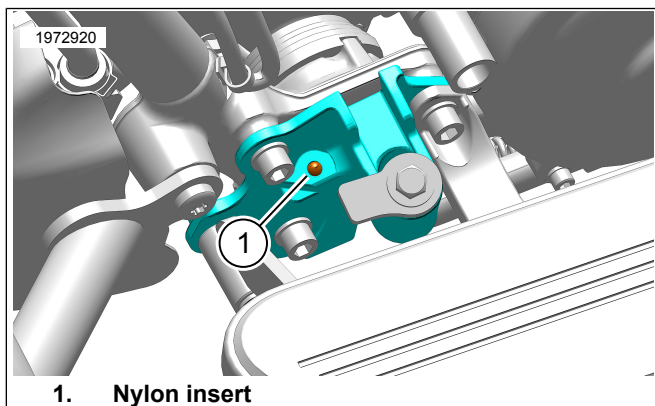

Figure 2. Nylon Insert
1. See Figure 2. Remove nylon insert (1) from jiffy stand sub-assembly.